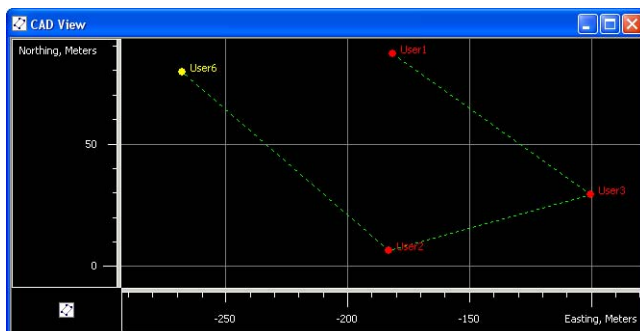

Figure 5-40. Example: Appending Points to the Line
- Click any line on the CAD view to automatically append the selected point to (Figure 5-40). The *Lines* tab display a new vertex of the line